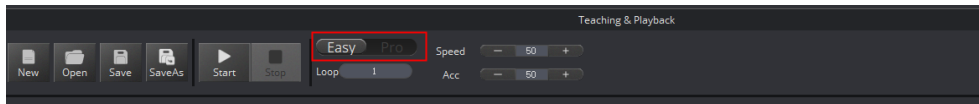

Figure 5.180 Switch advanced function
Step 1 Click  icon on the **Teaching&Playback** page, as shown in Figure 5.180.